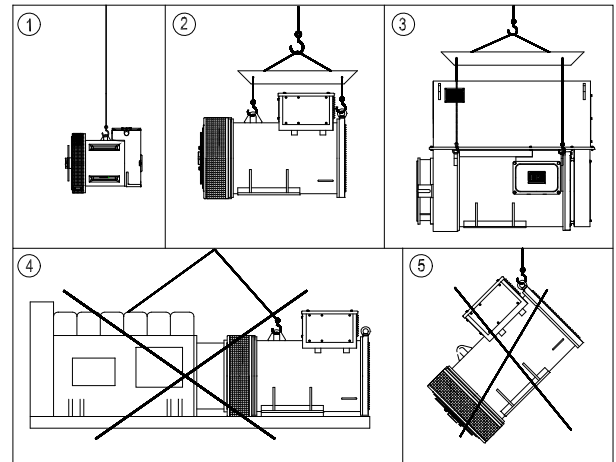

Figure 3.1: Handling of alternator
- Positions 1, 2 and 3 of Figure 3.1, represent the proper way of handling alternators and positions 4 and 5 show the wrong ways;